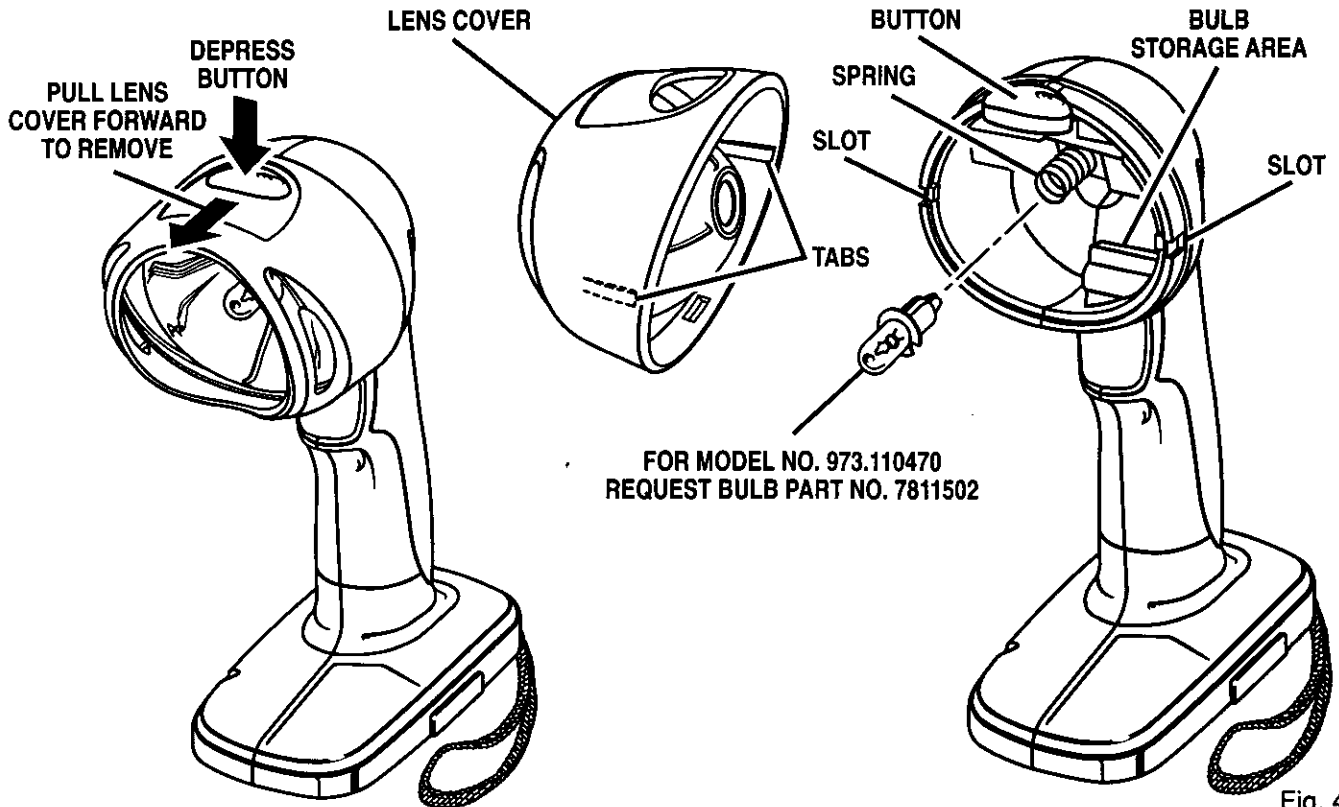

Fig. 4
See Figure 4.
When purchasing replacement bulb, request recommended part number 7811502. See Figure 4.
**Note:** For your convenience, your worklight has a bulb storage area to store an extra bulb. See Figure 4.